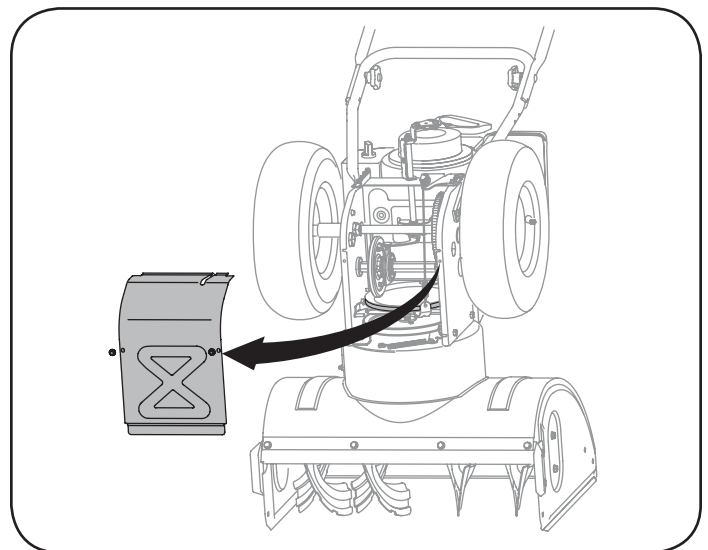

Figure 33
5. Remove the frame cover from the underside of the snow thrower by removing the self-tapping screws which secure it. See Figure 33.
5. Remove the frame cover from the underside of the snow thrower by removing the self-tapping screws which secure it. Refer to Figure 33.